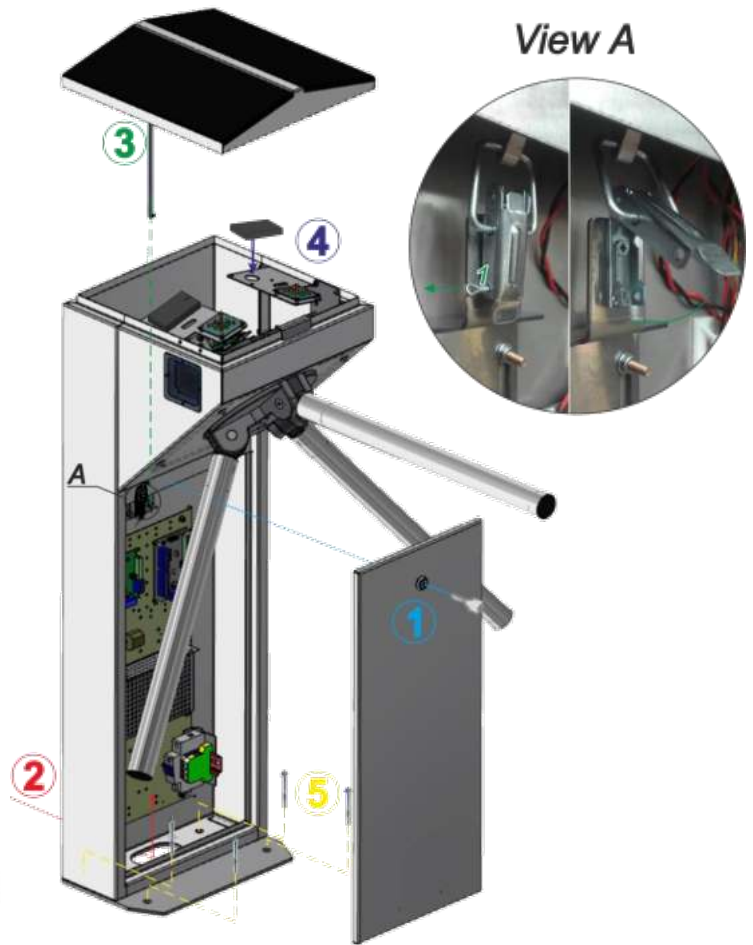

Fig. 16 – General view of the "CENTURION-M" and "BASTION-M" and turnstiles assembly
8) The rack door to be removed by turning the lock key (Fig. 16) to access to the "CENTURION-M" and "BASTION-M" tripod turnstile base fixation and service holes as well as terminal blocks.
The lock pin (1) to be removed and the latch (2) to be opened by lifting it up to remove the rack lid (Fig. 16, View A)